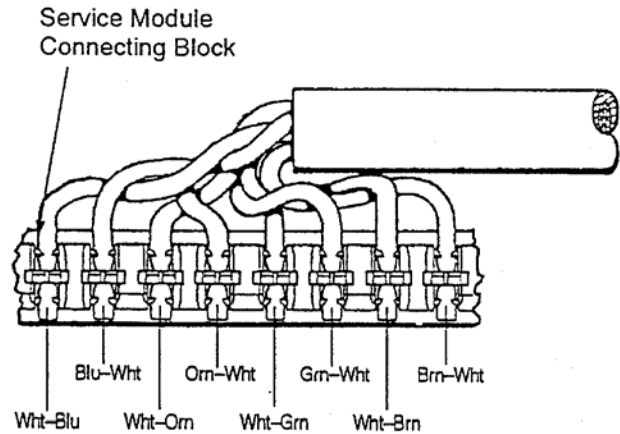

Figure 3
- 3) Position pairs over color-coded slots on the connector (see **Figure 3**).
- 4) Without untwisting cable, position the wires in individual slots (see **Figure 3**).